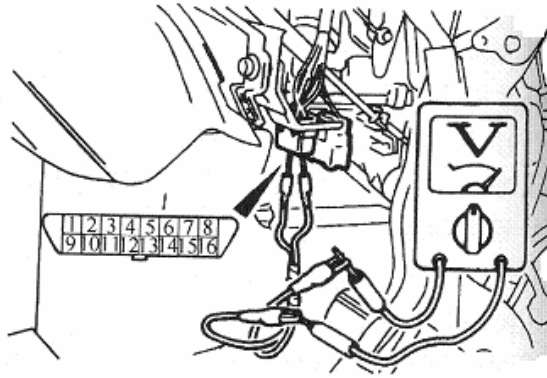

Fig. 20-7
- (1) Using the special tool to connect the ETACS terminal (No.9) and the earth terminal (No.4 or No.5) of the diagnosis connector to the voltage meter.(fig.20-7)
- (2) If the needle of the voltage meter flickers sounds once when each switch is operated (ON/OFF), the input signal for that switch circuit system is normal.